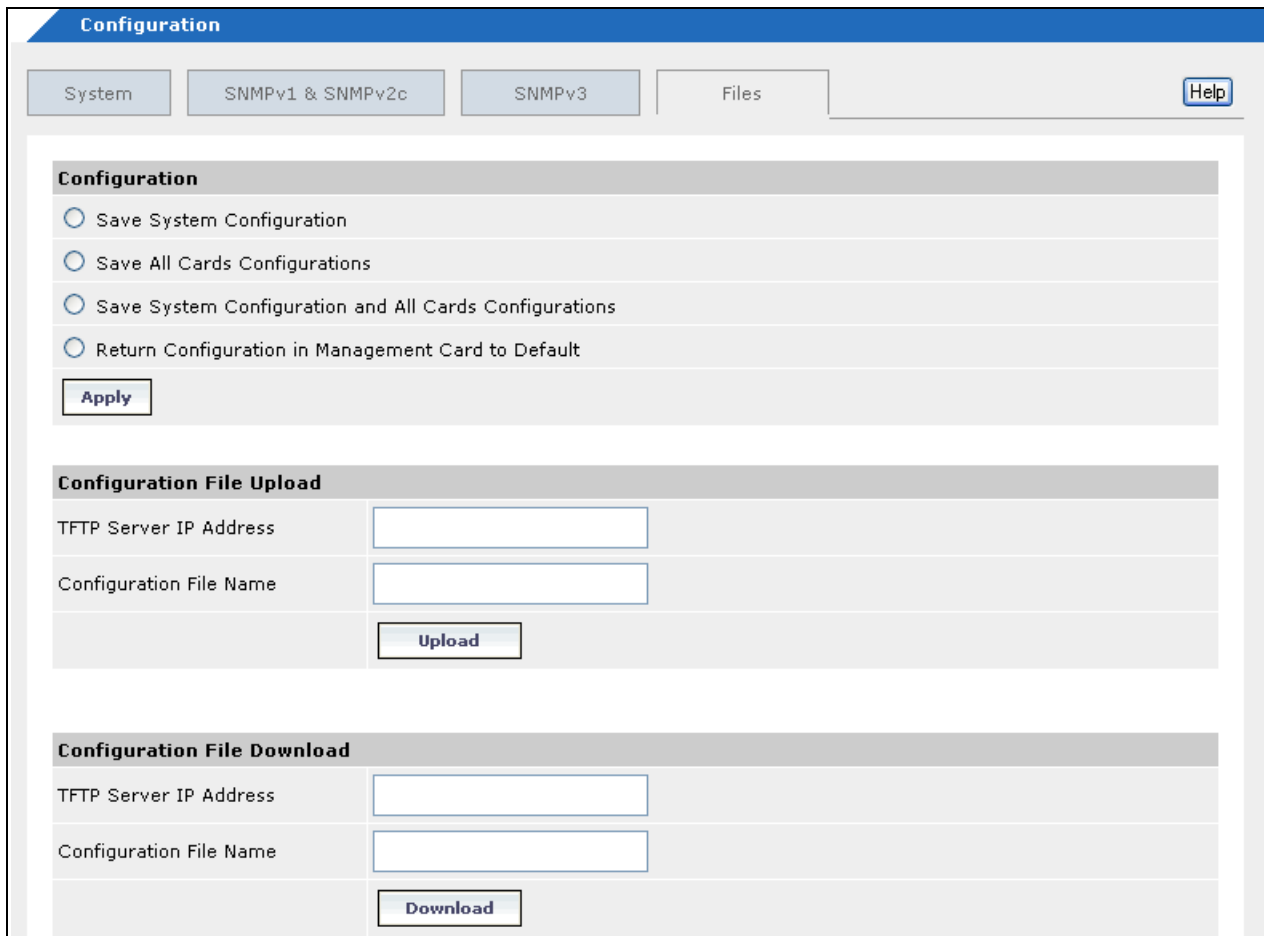

Figure 130. Files Tab
2. Click the **Files** tab. The tab is shown in Figure 130.
2. Click the **Files** tab. The tab is shown in Figure 130 on page 282.